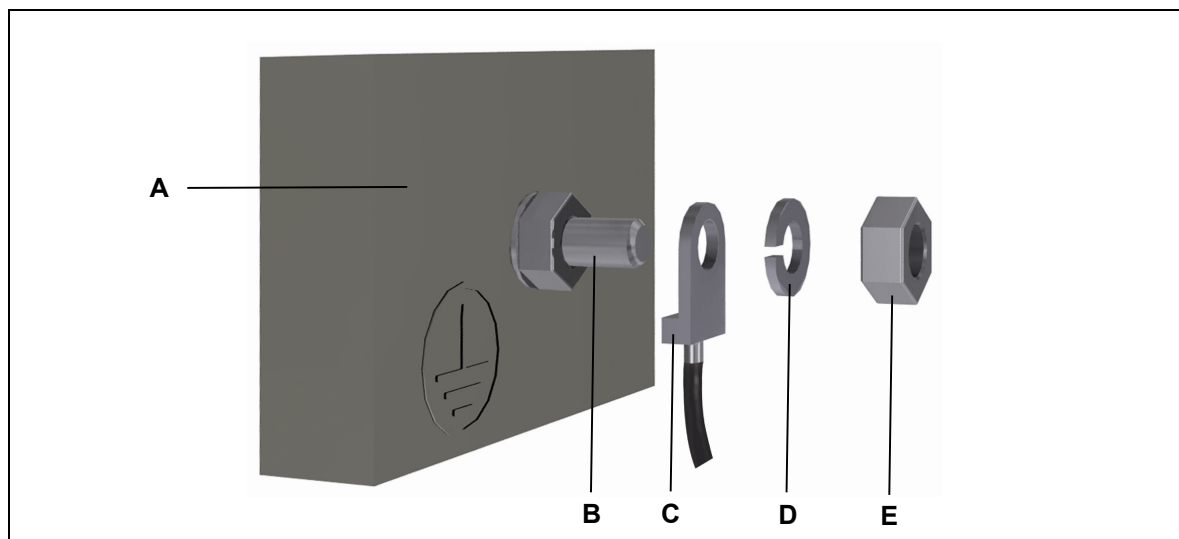

Figure 12 Installing the ground bolt
- 1 Unscrew the nut (E) and pull the washer (D) off of the grounding bolt (B).
- 2 Put the grounding lug (C) onto the grounding bolt (B) as show in Figure 12.
- 3 Put the washer (D) back on.
- 4 Tighten the nut (E) back onto the grounding bolt. It should not be possible to loosen the nut with your hand.